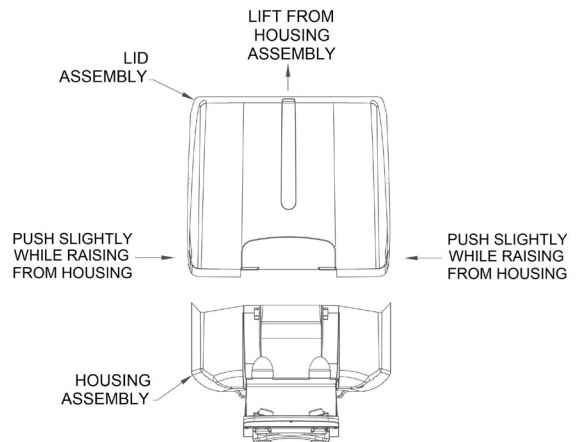

FIGURE 17
- A. To inspect the interior of the unit, remove the Lid Assembly. A slight pressure must be applied to both sides of the Lid to remove This will disengage the Locking Tab inside lid assembly. While pressing, lift upward and cover will come off (Ref Figure 17).